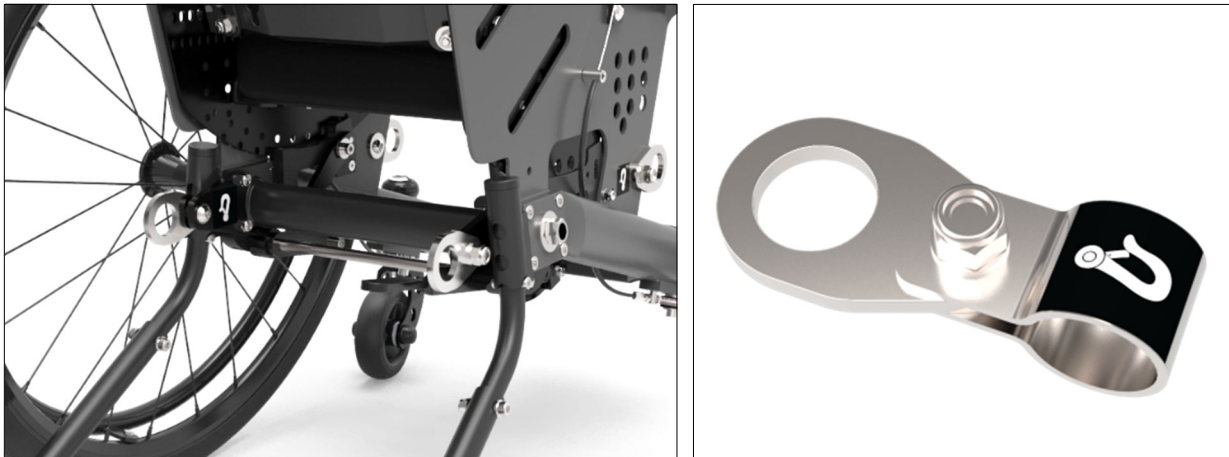
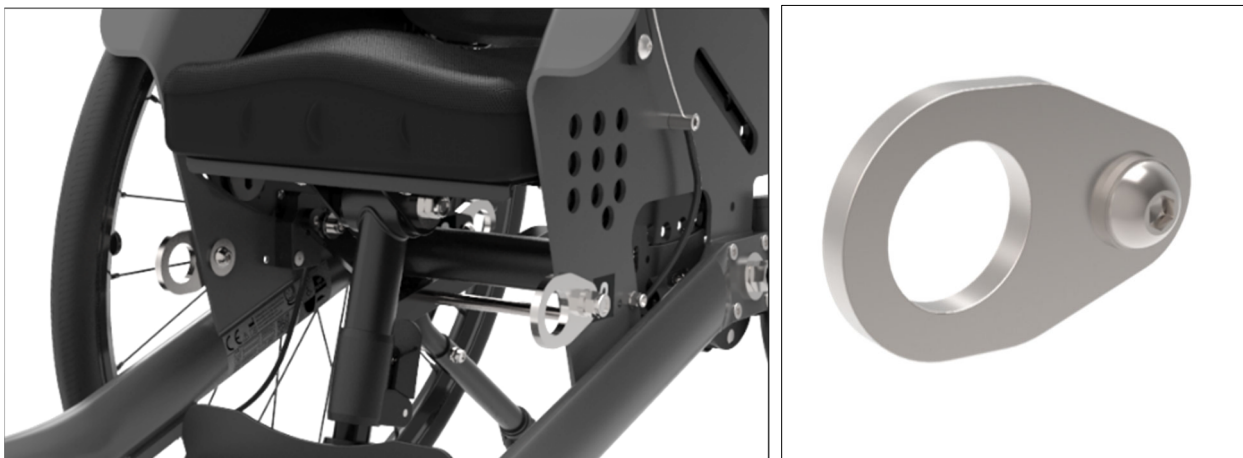

Figure 31: Rear attachment points
Figure 32: Front attachment points
- The positions of the four attachment points on the kidevo mini.t are marked with a hook symbol sticker (see Figure 31, Figure 32).
- The kidevo mini.t must be secured with a restraint system suitable for the anchor points (see Figure 31, Figure 32).